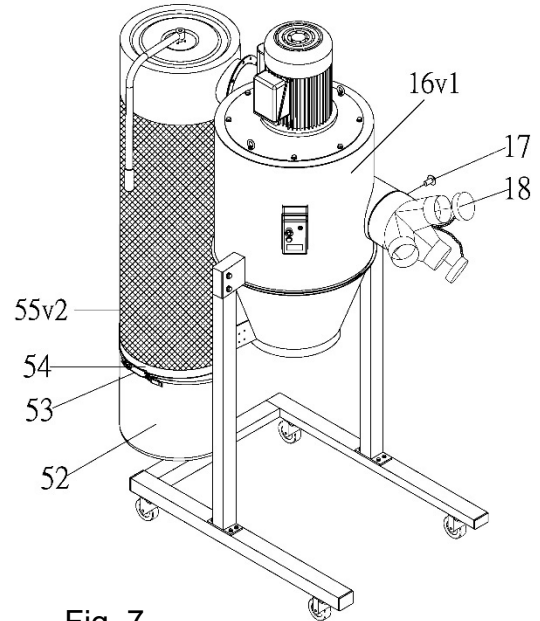

Fig. 7
9. Assemble Inlet Adaptor (NO.18) on Main Housing (NO.16V1) and tighten with Phillips Head Screw (NO. 17) 3/18" x 3/8". See FIG. 7.
10. Assemble and tight PE bag (NO.52) on bottom of Canister filter(NO.55v2) with Steel bag clamp (NO.53). See FIG. 7.